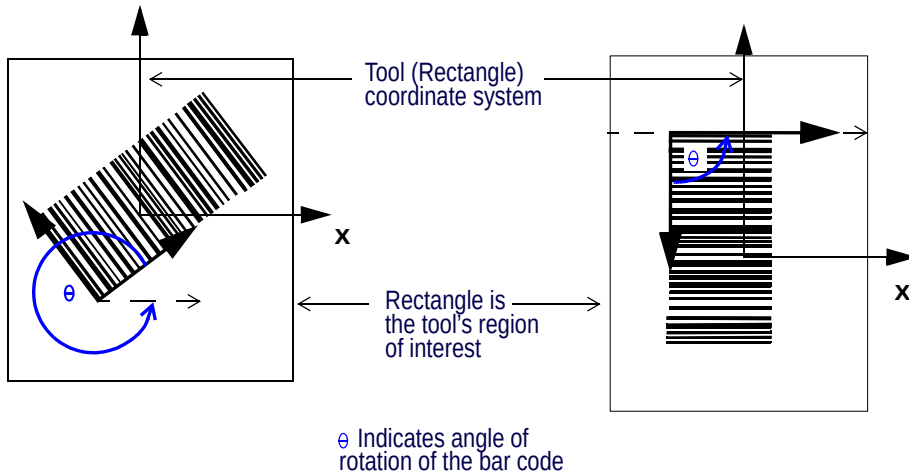

Figure 422 Bar Code Angle of Orientation
- **Angle:** The angle of orientation of a bar code is the counterclockwise angle between the bar code's X-axis and the X-axis of the Rectangle region of interest. See examples in Figure 422.